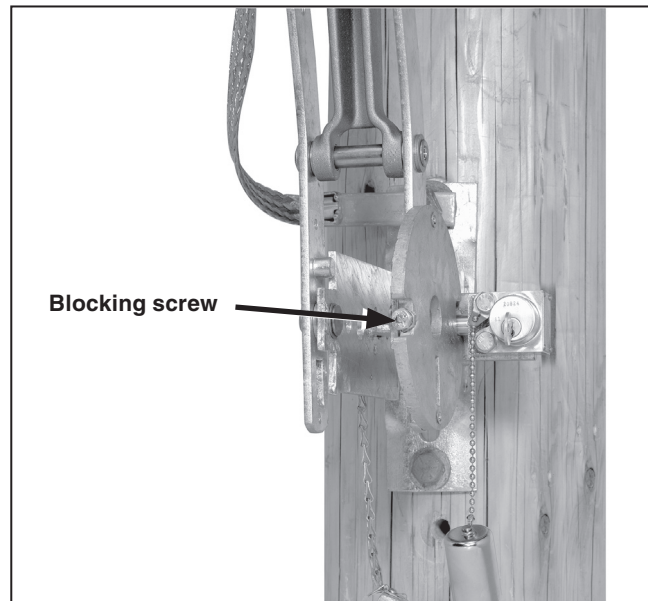

Figure 24. The blocking slot in the interlock disc.
STEP 22. Block one of the two slots in the locking disc with the blocking screw provided. (The slot to be blocked depends on whether a locked-open or locked-closed arrangement is required.) See Figure 24.